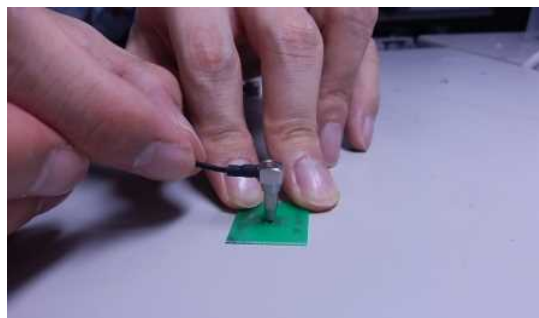

Fig. 17
- Do not pull the cable to withdraw the harness as shown in Fig. 17.